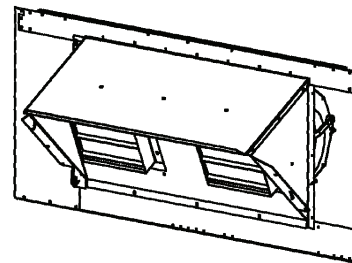

Fig. 18 — Assembly in Operating Position
6. Tilt the assembly out of the unit and into final operating position. See Fig. 18.